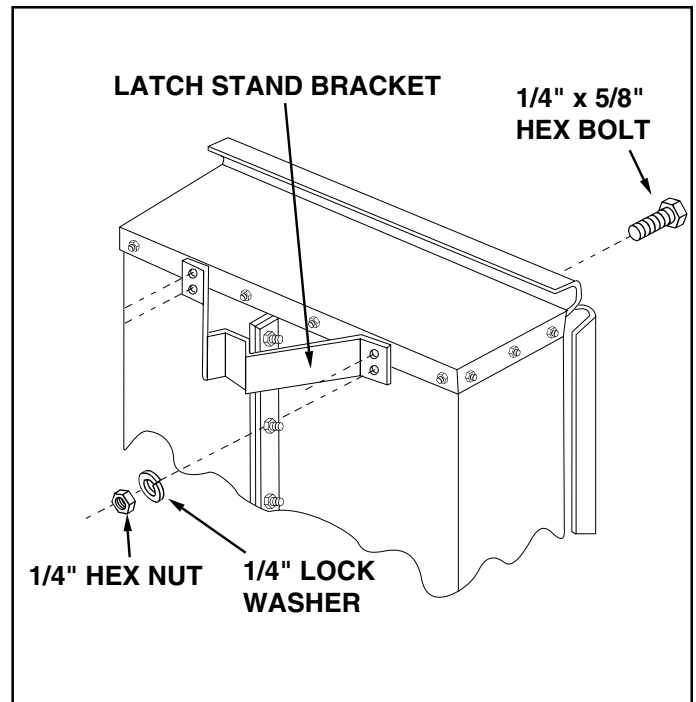

FIGURE 7
11. Assemble latch stand bracket using four 1/4" x 5/8" hex bolts, 1/4" lock washers and 1/4" hex nuts. See figure 7. **TIGHTEN**.